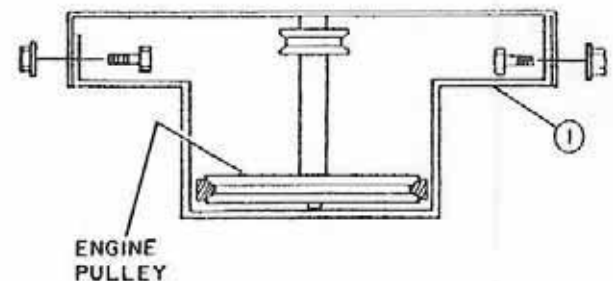

FIGURE 12
- g) On tractor with manual PTO clutch: Remove the belt guide on the tractor engine attachment drive pulley and install the bent flat bar drive pulley guide (fig. 12, item 1) inside the tractor frame. On the left hand side, use the tractor hole 7 11/16" from the center of the front axle. The left hand side of the guide should be higher. On the right side, use the hole 8 5/16" rear of the center of the front axle. Secure tightly with two 3/8 X 3/4" bolts and nuts.